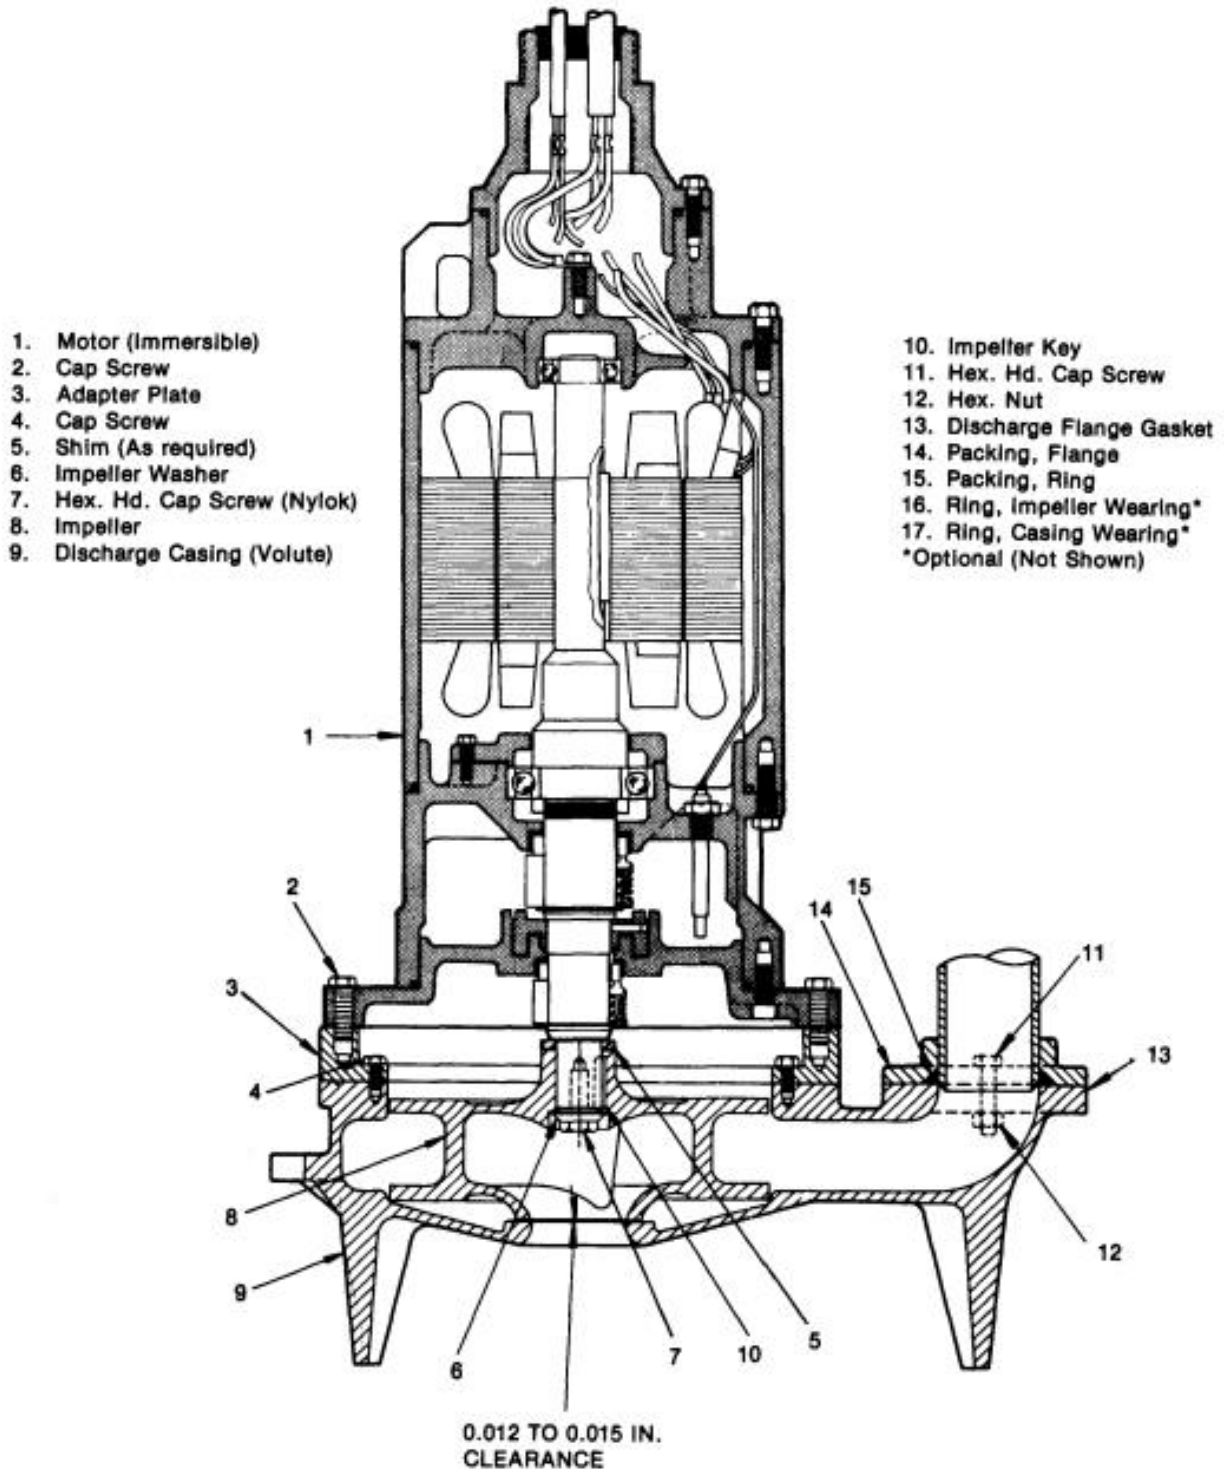

Figure 9. Type UW Sewage Pump
DISASSEMBLY: Disassemble sewage pump as follows (see figure 9):
When ordering replacement parts always furnish data stamped on nameplate attached to the pump. Give the index number and part name as shown on figure 9.
ASSEMBLY: Assemble pump parts as follows (see figure 9):
5. Using a hoist, lower motor (1) and impeller to engage casing.
NOTE: If impeller or shims have been replaced, measure clearance with feeler gage between impeller bottom and inside surface of casing at suction port. If not within limits shown on figure 9, use shims (5) as required to obtain proper clearance.
6. Install cap screws (2) and snug hand tight. Manually rotate impeller to check that there is no interference. If there is interference, shift motor, within screw clearance, by tapping with plastic hammer, lightly at point of interference. Continue to rotate impeller and tap around circumference until all interference is removed. Cross tighten screws uniformly and securely.